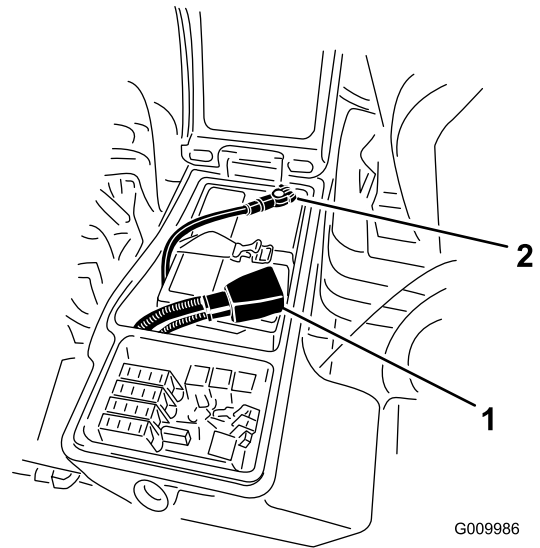

Figure 66
4. Install the positive cable (red) to the positive (+) terminal and the negative cable (black) to the negative (-) terminal of the battery (Figure 66). Secure cables to posts with capscrews and nuts. Make sure that the positive (+) terminal is all of the way onto the post and the cable is positioned snug to the battery. The cable must not contact the battery cover. Slide the rubber boot over the positive terminal to prevent a possible short from occurring.